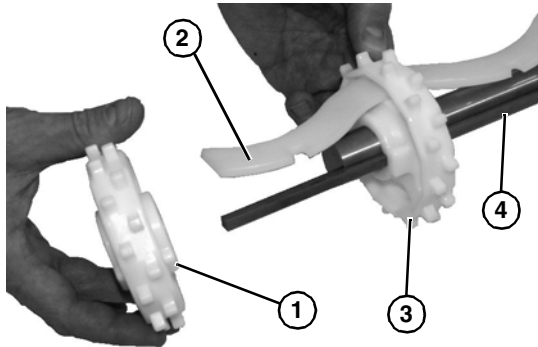

Figure 60
- Slide entire sprocket assembly slightly outward, and remove the first sprocket (**Figure 60, item 1**) off the drive spindle and alignment bar. (**Figure 60, item 2**).
- Remove remaining sprockets (**Figure 60, item 3**) off the alignment bar as you slide entire assembly off the drive spindle (**Figure 60, item 4**).